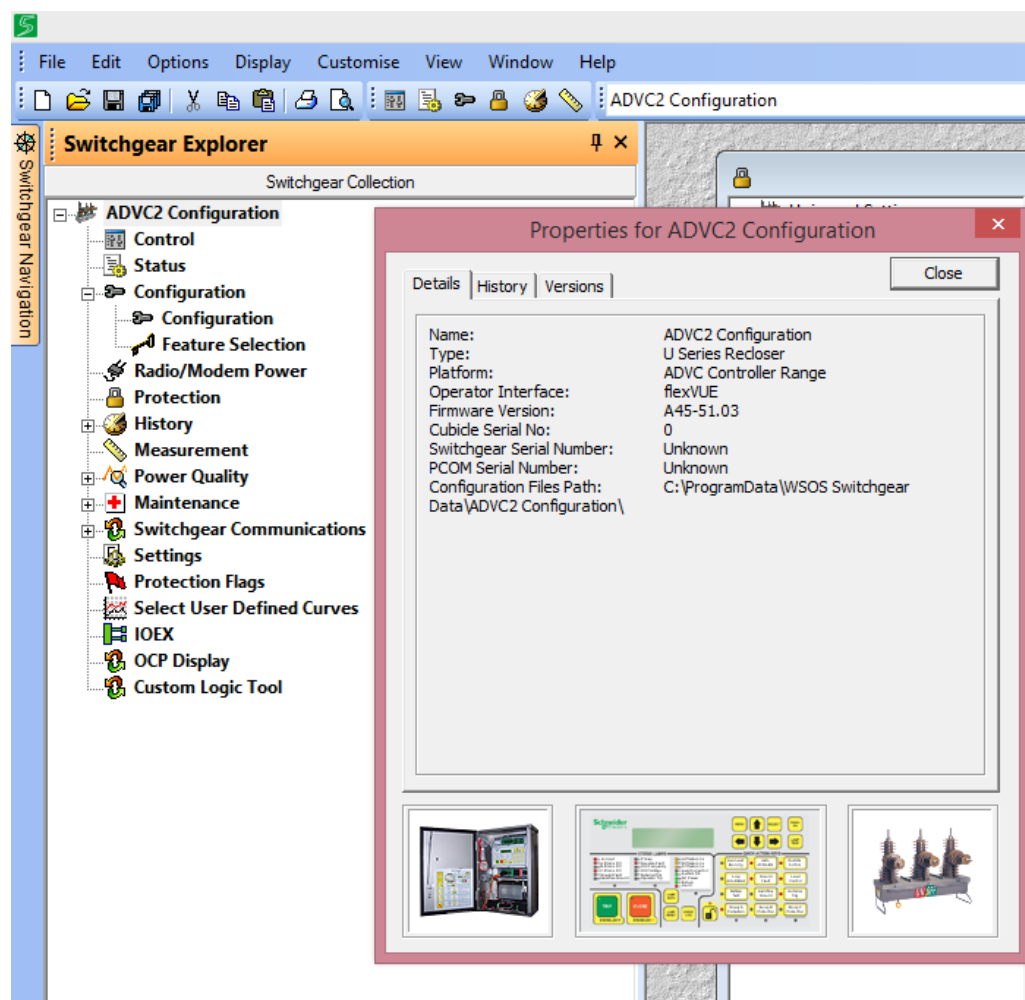

Figure 3: Existing ADVC2 configuration (version A45-51.03)
1. Select an existing ADVC2 configuration file in WSOS and set it to be the active configuration. Figure 3 shows an example of an ADVC2 configuration, that was created for version A45-51.03